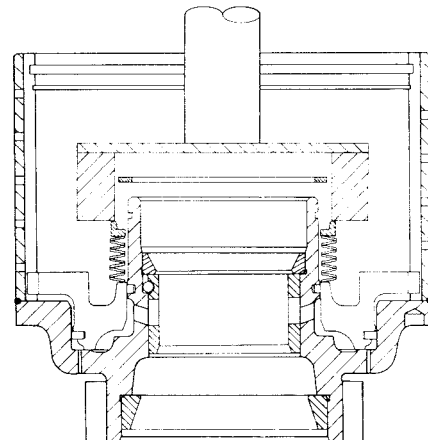
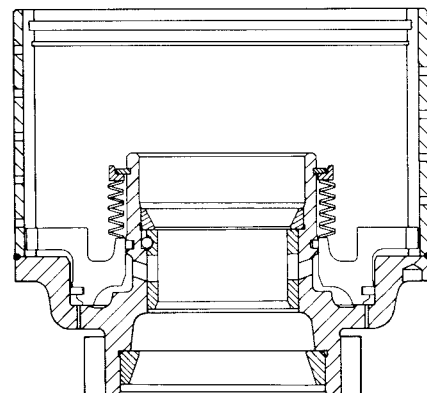

Figure 109
Figure 110
Position bellville washers against the clutch piston as shown in Figure 109. Concave sides against each other. Five (5) sets, total of ten (10) washers in each clutch, input (forward) and reverse. Locate snap ring retainer on bellville washers.
Position snap ring over clutch hub. Compress snap ring retainer and bellville washers below snap ring groove, (See Figure 109). Install snap ring in full position in snap ring groove and release tension on ring retainer. Retainer must fit all around snap ring, (See Figure 110).